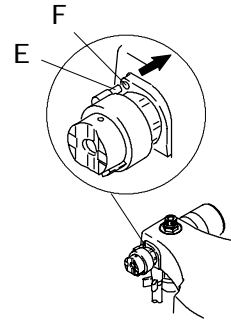

Fig. 4
6. Replace brown o-ring (3) on end of valve stem. Apply sealant (6) to valve threads. Install valve stem in pump manifold. Torque to 185 in-lb (21 N-m).
7. Fig. 4. Install base (C) on valve (D), aligning pin (E) on base with hole (F) on pump manifold.